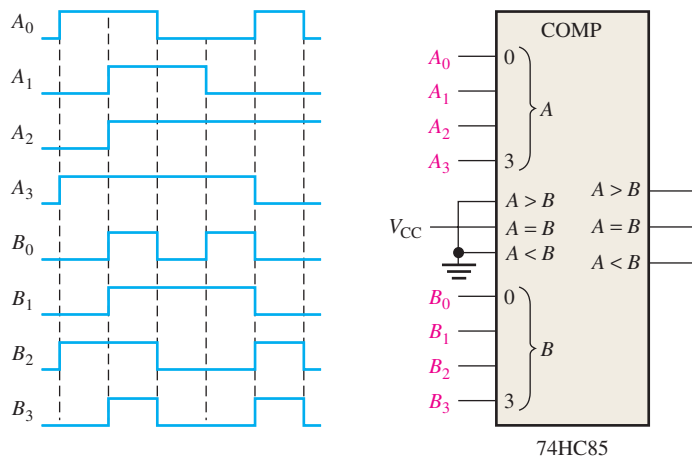

FIGURE 6-74
14. For the 4-bit comparator in Figure 6-74, plot each output waveform for the inputs shown. The outputs are active-HIGH.